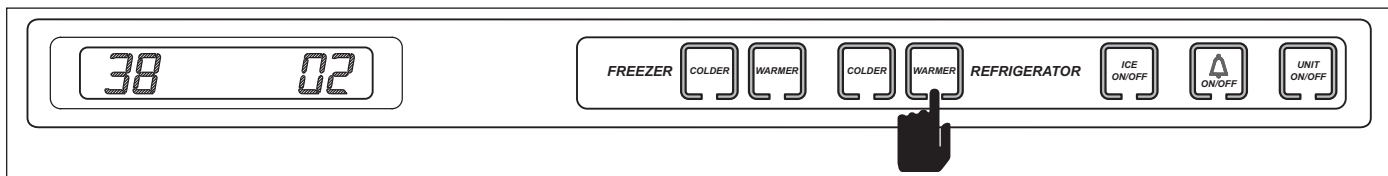
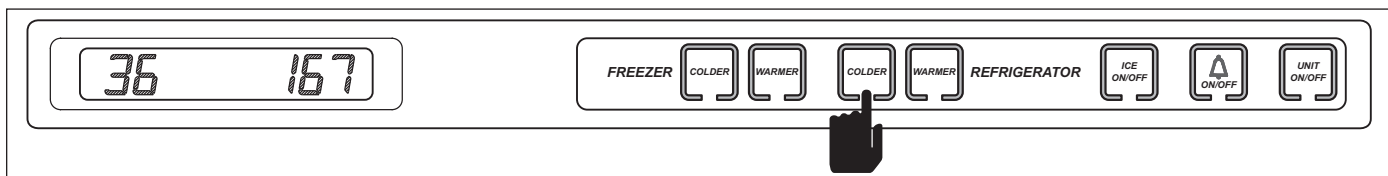

**Figure 3-59. Initiate Temperature Log Recall Mode To View Compartment Temperature History Only - Press and Hold Desired WARMER Key, Then Press UNIT ON/OFF Key**
**Figure 3-60. Thermistor Location Code Flashes Every Three Seconds**
**Initiate Temperature Log Recall Mode To View Compartment Temperature History Only** - Begin with the unit ON. Now, press and hold the desired compartment WARMER key, then press the UNIT ON/OFF key, then release both keys (See Figure 3-59). The left display area on the LCD will show average compartment thermistor temperature and in the right display area will be the index number. The first index number will be “1”, indicating the most recent two-hour temperature average. The right display area will also flash the thermistor location code at 3 second intervals (See Figure 3-60).